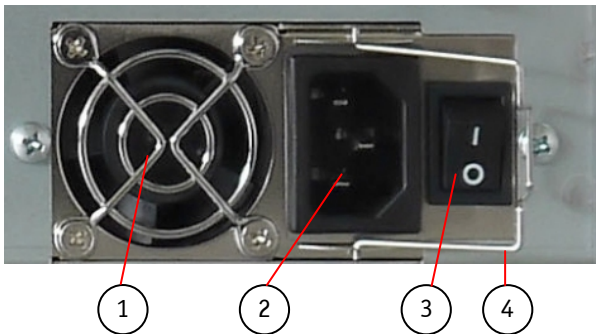
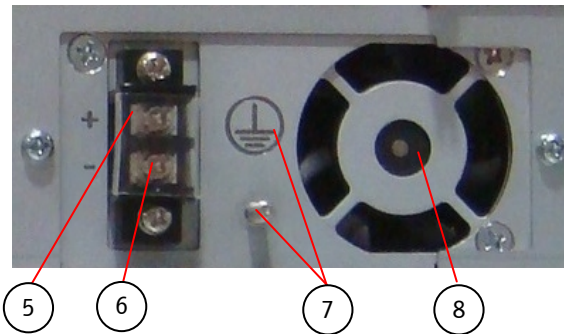

Fig. 21: Detail of the AC wide range PSU
Fig. 22: Detail of the DC PSU
On request, your Omni Client can be equipped either with a wide range AC PSU (Fig. 21) or a DC PSU (Fig. 22).
Legend for Fig. 21 and Fig. 22:
The computer base with DC PSU is equipped with a threaded ground stud (Fig. 22, pos. 7). The system must be grounded as described in the subsection 10.1.2 “DC Power Connection”.